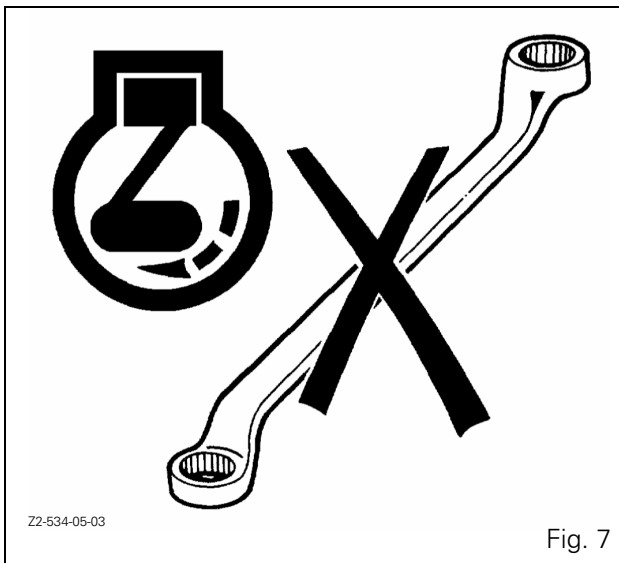

Fig. 7
- **DO NOT SERVICE** the tractor while the engine is running or hot, or if the tractor is in motion (Fig. 7).